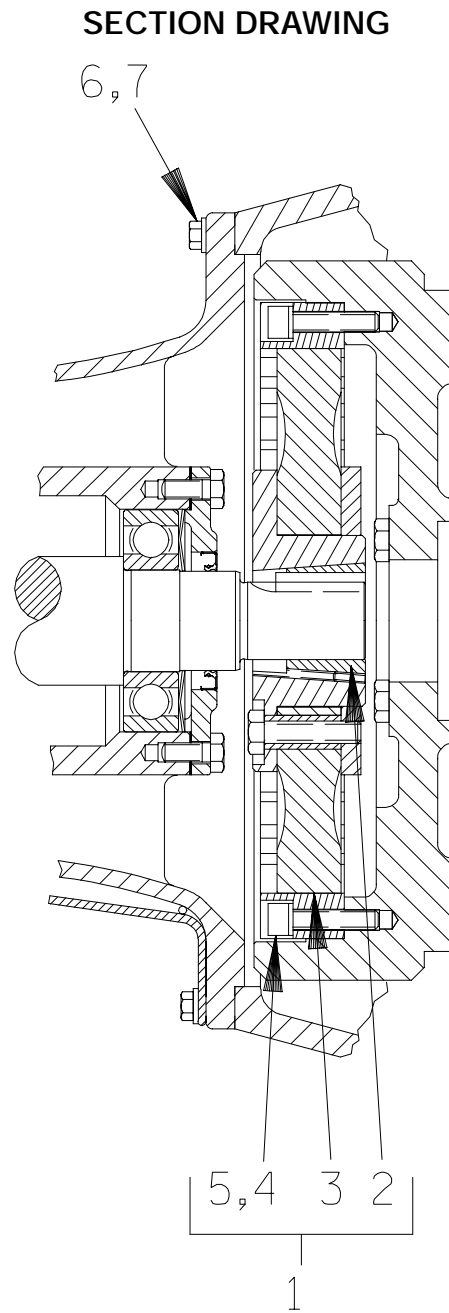

Figure 3. Drive Assembly For Pump End 86A2--(SAE 4/10)
(Figure 3)
Install the shaft key (25, Figure 2) in the shaft keyway. Position the flexible portion of the coupling assembly (3) on the shaft as shown in Figure 3.
Make certain that the flexible portion of the coupling is mounted as shown in Figure 3. **This is critical.** If the coupling is not properly positioned on the shaft, the coupling parts may not fully engage, or a pre-load condition can cause premature bearing failure.